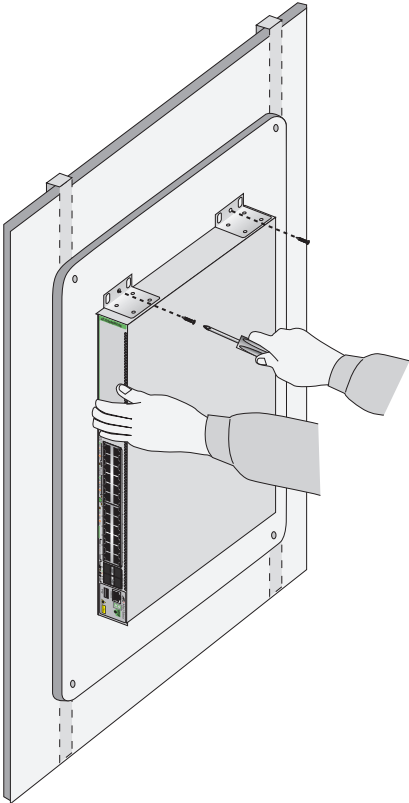
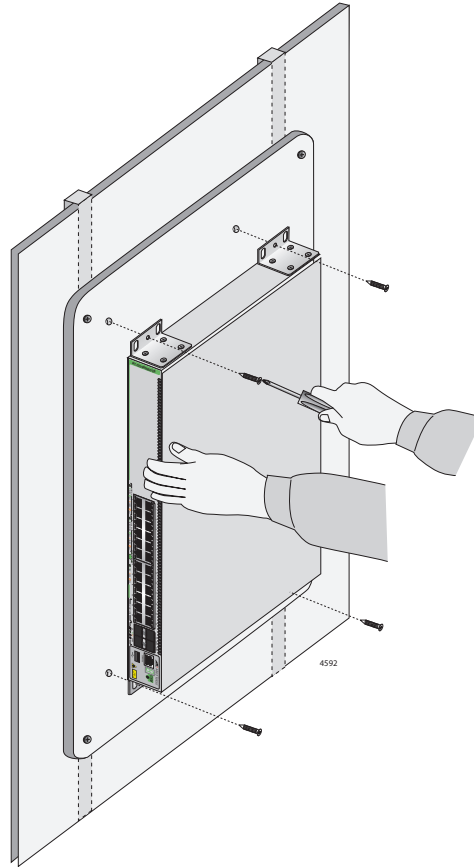

Figure 60. Securing the GS980MX/28 or GS980MX/28PSm Switch to the Plywood Base
Figure 61. Securing the GS980MX/10HSm, GS980MX/18HSm, GS980MX/52 or GS980MX/52PSm Switch to the Plywood Base
3. After attaching the brackets, have another person hold the switch on the plywood base on the wall while you secure it with the M4x32.3mm screws included with the switch. Refer to Figure 60 on page 104 for the GS980MX/28 or GS980MX/28 switch or Figure 61 on page 105 for the GS980MX/10HSm, GS980MX/18HSm, GS980MX/52 or GS980MX/52PSm switch.